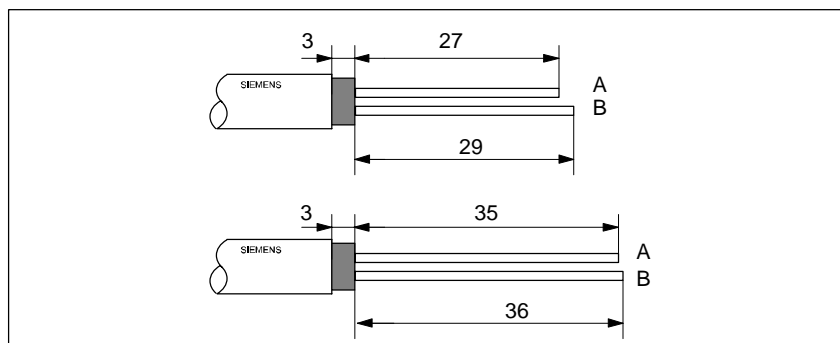

Figure 4-19 Cable Stripped for Connection to Bus Connector (6ES7 972-0BA30-0XA0)
1. Strip the insulation as shown in Figure 4-19.